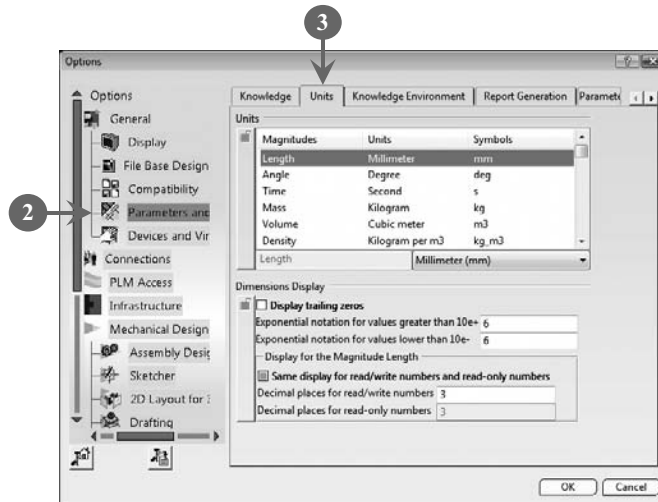

FIGURE 2.4
The **Options** dialog box opens (**Figure 2.4**).
2. Select the **Parameters and Measures** section that is displayed under the **General** node (Figure 2.4).
3. Select the **Units** tab, as shown in Figure 2.4:
In Figure 2.4, you can change the desired settings for length, time, and volume. Apart from unit settings, you can also change the grid settings, by opening the **Sketcher** tab. Perform the following steps to open the **Sketcher** tab to change the grid settings.